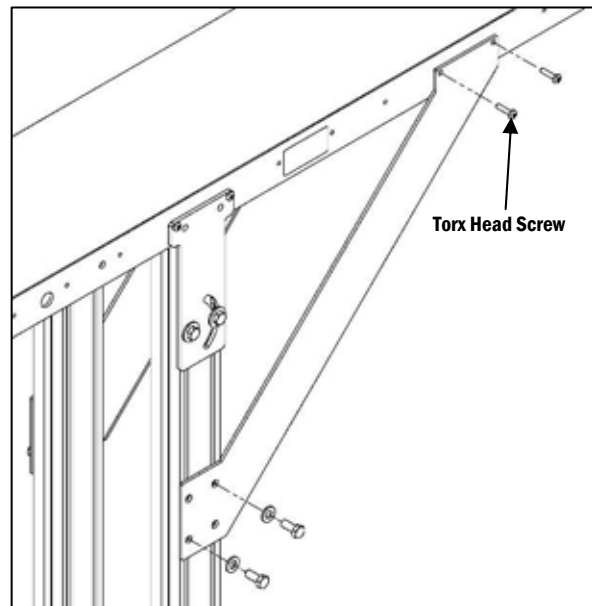

Figure 2
c. Using a Screw Gun with a Torx bit, drive in the Torx Head Screws into the top section of the Brace (**Figure 2**). The holes will line up with accessory holes in the conveyor's frame.